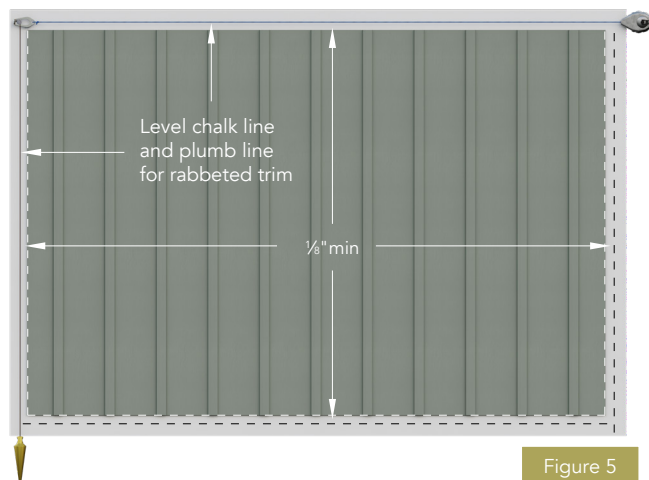

Figure 5
- If using rabbeted trim accessories, please follow manufacturer's instructions for use. Measure and chalk a level line and a plumb line. Allow for the installation of trim after the siding is installed, accommodating siding expansion and contraction (Figure 5).